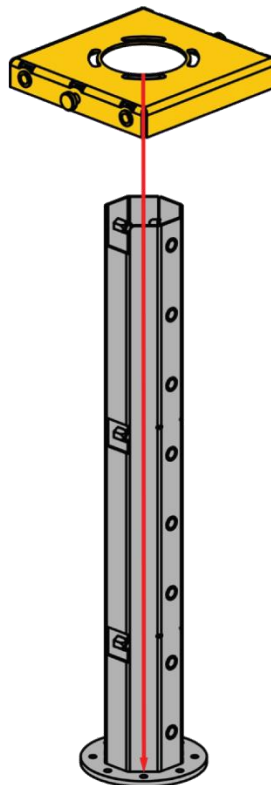

Figure 85: Step 4
- Step 4:** Slide the top plate ④ over the lower tube ③, as shown in **Figure 85**.